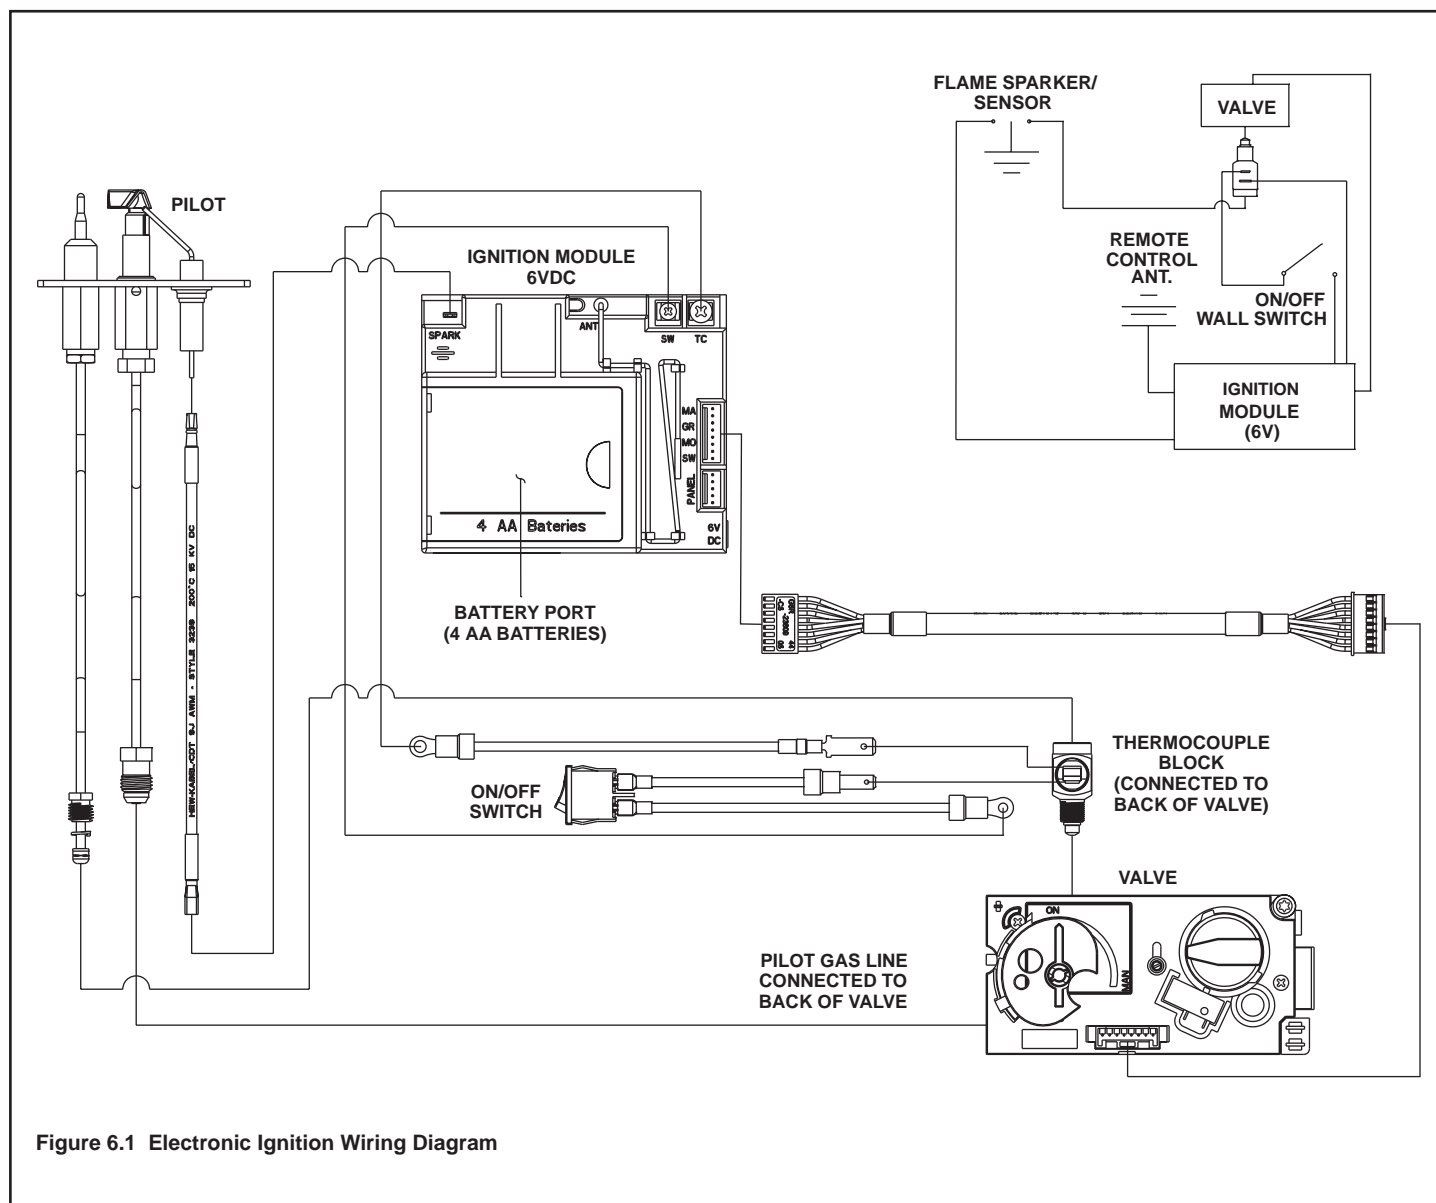

Figure 6.1 Electronic Ignition Wiring Diagram
- The batteries are located within the ignition module which is located behind the glass door assembly. A wiring diagram is shown in Figure 6.1.